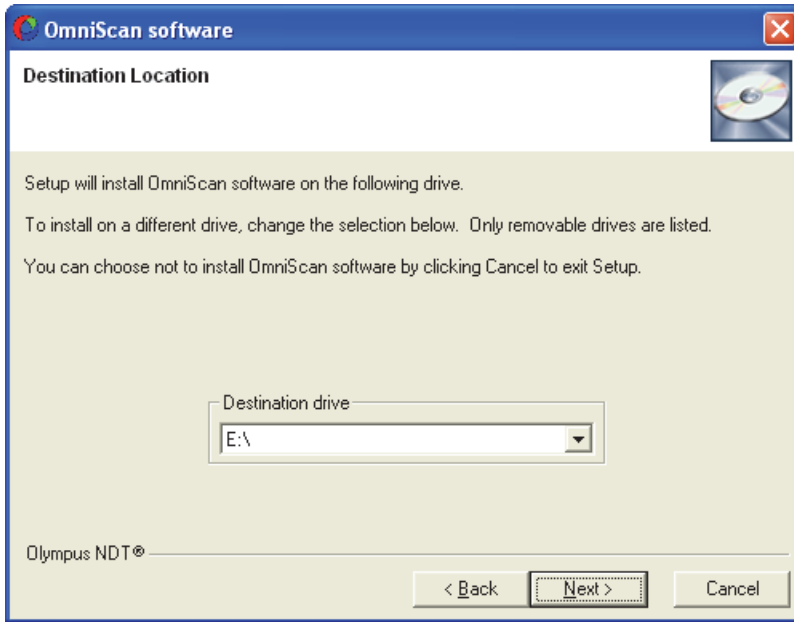

Figure 4-14 The OmniScan software Destination Location dialog box
4. In the next screen of the **OmniScan software** setup program, in the **Destination drive** drop-down list box, select the drive for your USB storage device, and then click **Next** (see Figure 4-14 on page 76).